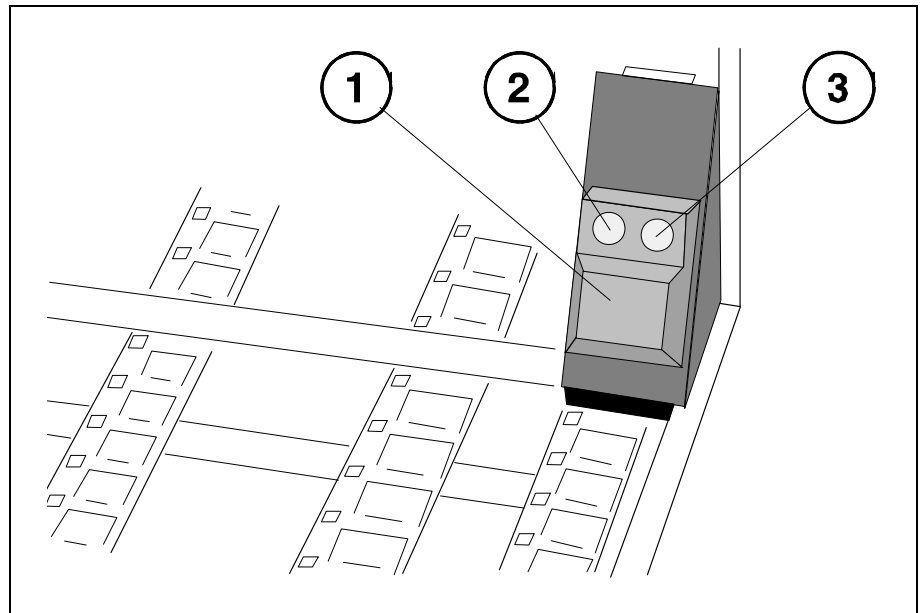

Figure 13-10. Release button and status LEDs.
All TM Magazines are equipped with a release button ('1' in Figure 13-10) which has a green LED (2) and a yellow LED (3).